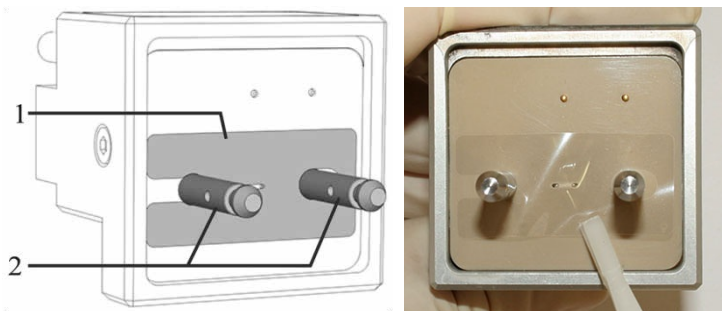

Fig. 6: Gasket installed on the cell body (example)
1. Inspect and position the gasket (→ Fig. 6):